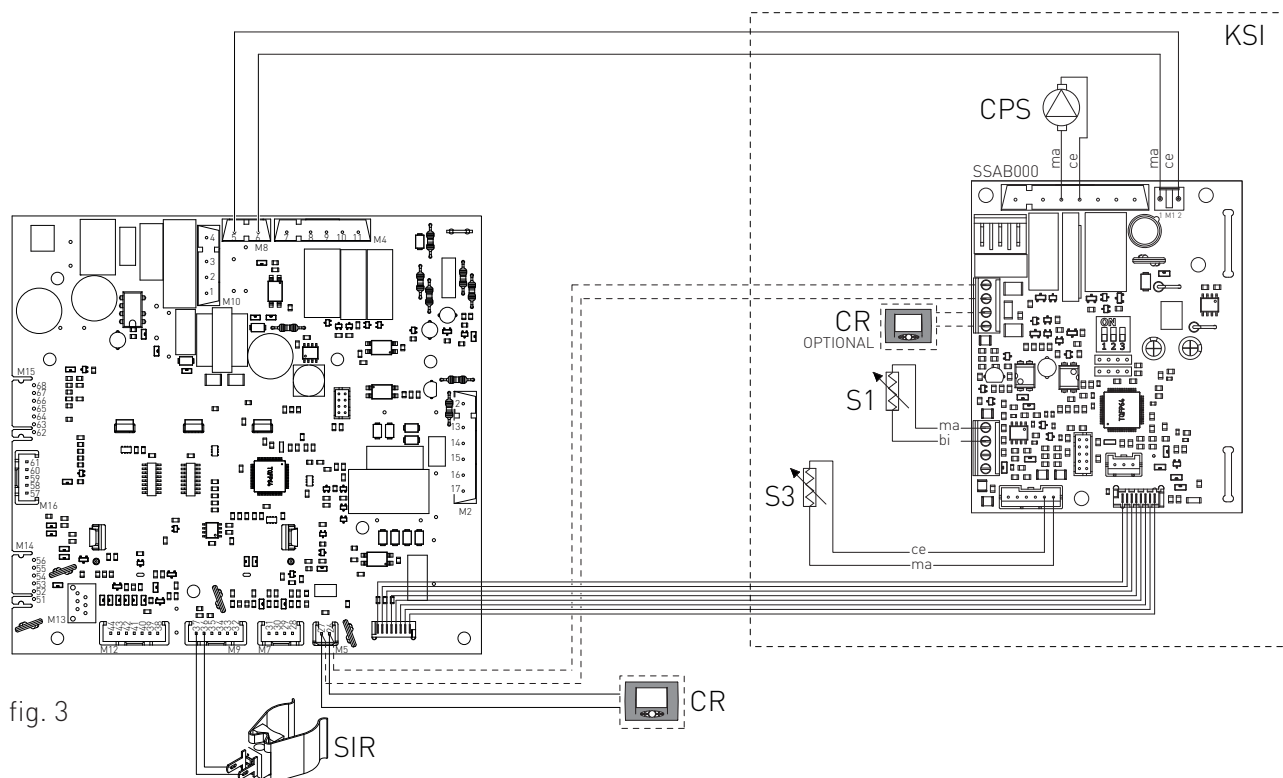

fig. 3
- › after removing the crankcase, connect the items below to the electronic board (see fig. 3):